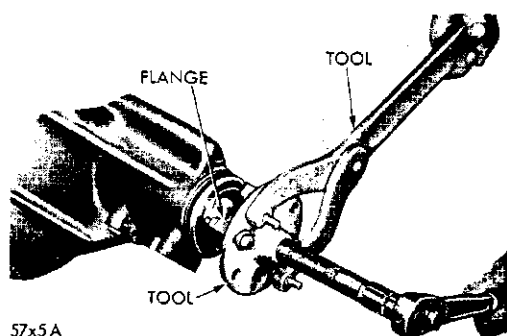

Fig. 10—Removing Companion Flange
(7) With the companion flange up, hold the flange with holding Tool C-3281 and remove the pinion shaft nut and belleville washer.
(8) Install the companion flange puller Tool C-452 and remove the flange (Fig. 10).